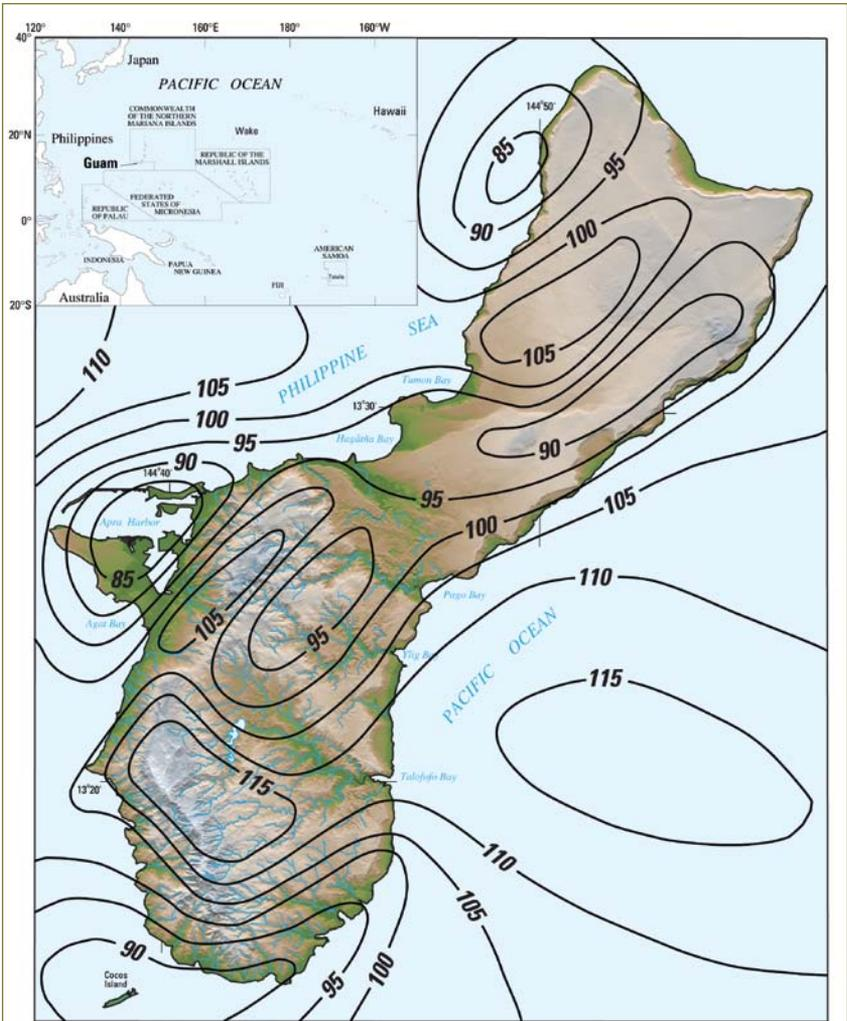

Figure 1.2. Annual Rainfall in inches per year for Guam (Adapted from Gingerich's 2003 USGS Report WRIR 03-4126, Hydrologic Resources of Guam).
- Average annual rainfall on Guam ranges from ~85-115 inches (Figure 1.2). **Heavy rainfall occurs** during the wet season (July through October).